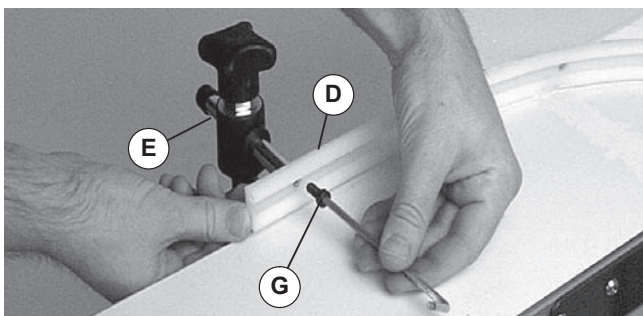

Figure 5
5. Attach outside turn guide (Figure 5, item D) to shaft of each guide mount (E) with screw (G). Tighten screws to 30 in-lb (3 Nm).